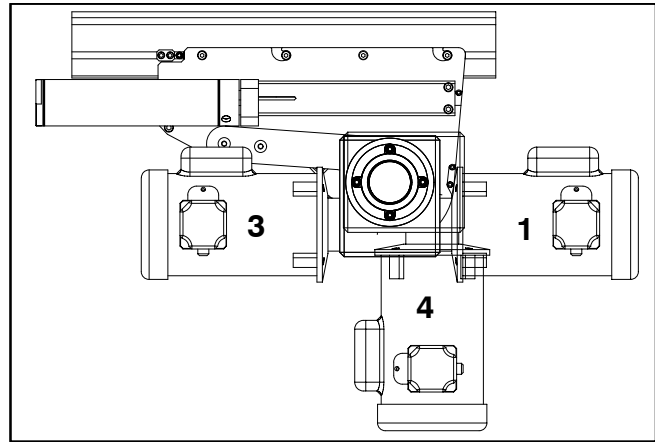

Figure 14
**NOTE:** Gearmotor may be operated in positions 1, 3 or 4 (Figure 14).